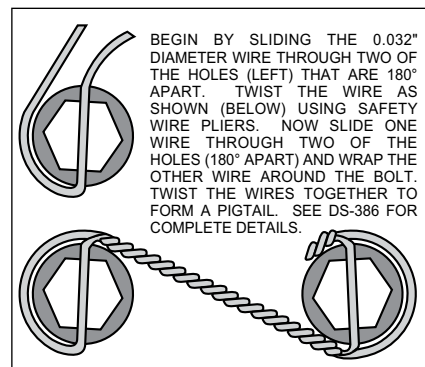
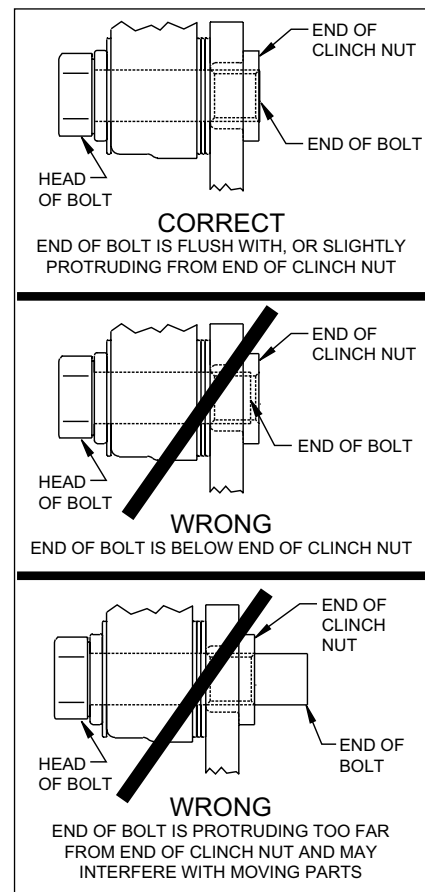

Figure 4. Safety Wire Diagram
Figure 5. Clinch Nut Engagement Diagram
CAUTION: All mounting bolts must fully engage clinch nuts. Be sure to check that all bolts are either flush or protruding through flanged side of clinch nut after shimming, Figure 5.
- The rotor (3) has two sides. A flat side and an inset side. Bolt hat (2) to flat side of rotor (3) using bolts (5). Apply red *Loctite*® 271 to the bolt threads and torque to 25 ft-lb using a criss-cross pattern. Safety wire bolts using standard 0.032 inch diameter stainless steel safety wire as shown in Figure 4. Please refer to Wilwood's data sheet DS-386 (available at www.wilwood.com/Pdf/DataSheets/ds386.pdf) for complete safety wire installation instructions.
- Align the correct hole pattern in the hat (2) with the stud pattern on the axle flange. **NOTE:** Some OEM and after market axles come with stud sizes larger than 0.50" diameter. Verify stud size and have a qualified machine shop drill the hats to the correct size. Slide the hat/rotor assembly (2 and 3) over the wheel studs and against the axle flange face.
- NOTE:**Please reference the caution statement at the beginning of the assembly instructions. Mount the caliper (6) over the rotor (3) and onto the caliper mounting bracket (1) using washers (7) and mounting bolts (8). View the rotor through the top opening of the caliper. The rotor should be aligned in the center of the caliper. If not, adjust the caliper by using 0.032 inch shims (9) by placing them between the caliper mounting bracket (1) and the caliper (6). Add as many shim washers (9) as necessary to achieve the correct alignment. **NOTE:** The end of the bolt must be flush with or slightly protruding from the head of the clinch nut. See Figure 5. Place spare shims (9) between washer and caliper mounting ear to achieve the proper mounting fastener configuration. Always use the same amount of shims on both the top and bottom caliper mounting bolts (8). Apply red *Loctite*® 271 to the mounting bolt threads (8), torque to 40 ft-lb. Caliper mount bolts may be safety wired for additional security.
- Position the Wilwood disc brake pads (10) into the caliper (6) and fasten with cotter pin (4). Steel backing plate side of brake pad should face the caliper pistons.